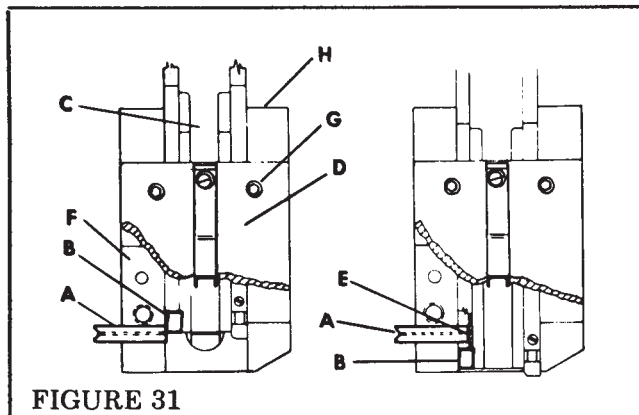

FIGURE 31
- (1) Turn main drive wheel until the former and driver assembly is at the highest point of its stroke.
- (2) Remove three face plate screws (Index G, Figure 31) and face plate (Index D, Figure 31).
- (4) Complete assembly can now be pulled from the slide box (Index H, Figure 31).
When replacing this assembly, always loosen the cutter tube clamp screw (Index I, Figure 31) and withdraw the cutter tube (Index A, Figure 31) slightly. See page 18 of this section and Figure 31. After the assembly is in position in the slide, slip the driver link on and fasten the two screws. Then replace the face plate and face plate screws. Press the cutter tube tightly against the cutter blade and tighten the cutter tube clamp screw.